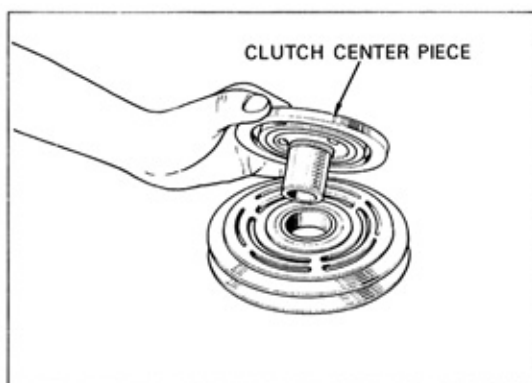
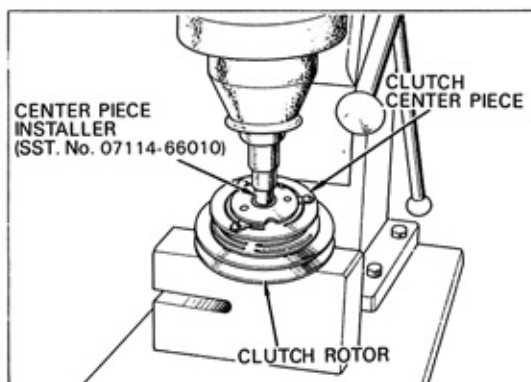

Fig. 72
Fig. 73
- c) Set the clutch pulley on the press using rotor supporter (SST No. 07114-66020) and center piece installer (SST No.07114-66010) as shown in Fig. 72 and Fig. 73.
- d) Insert the boss of clutch center piece into the inner race of bearing as shown in Fig. 73.